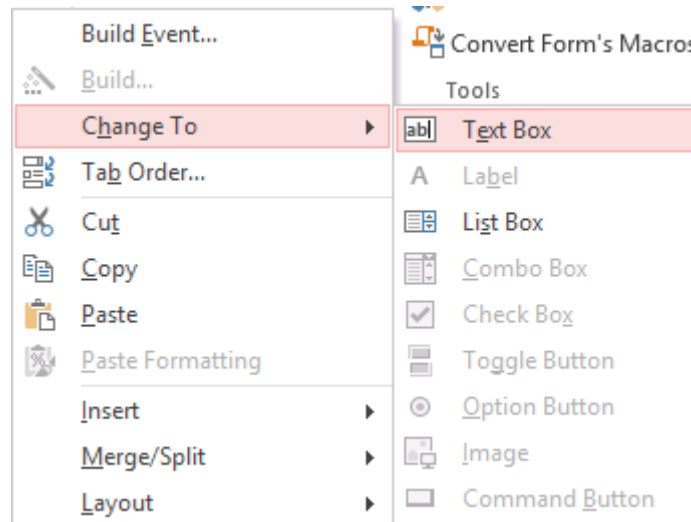

Figure 23: Menu Selection to Change a Form Field to a Textbox
1. Change the Combo Box to a Textbox: Right-click the *Customer No.* combo box and select **Change To** → **Text Box** (Figure 23). Now the *CustNo* field is a textbox.